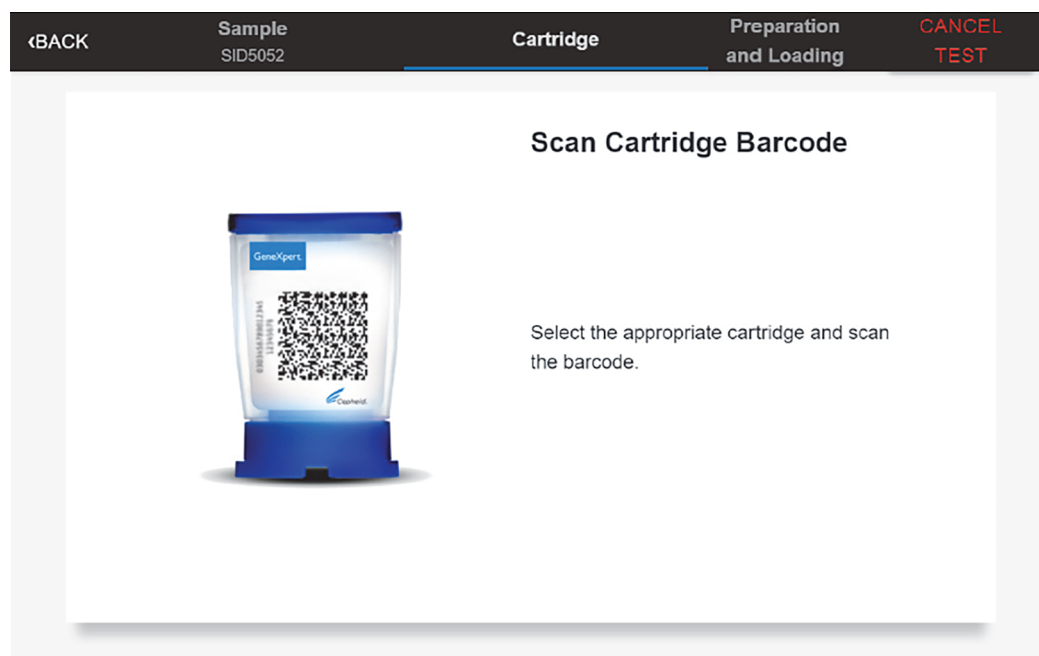

Figure 11. Scan Cartridge Barcode Screen
5. Verify the Sample ID and touch **CONFIRM**. The **Scan Cartridge Barcode** screen displays (see Figure 11).